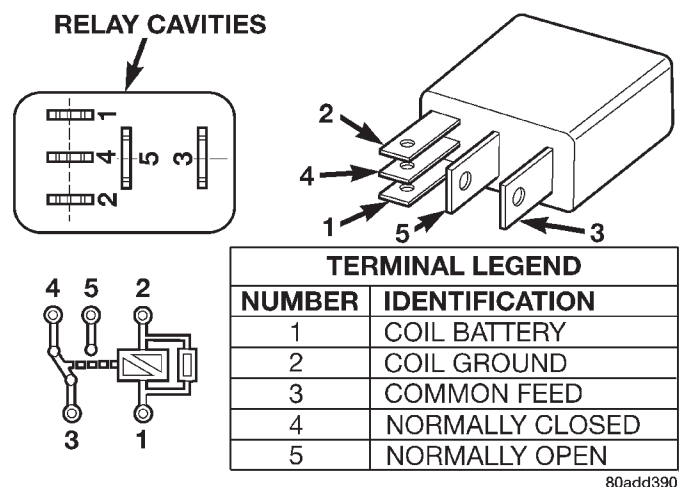

Fig. 12 Type-3 Relay
(16) If equipped with **type-3 relay** (Fig. 12), attach test leads from LCS adapter into PDC relay cavities number 3 and 5. For location of these cavities, refer to numbers stamped to bottom of relay (Fig. 12).
(17) When LCS adapter test leads are attached into relay cavities, fuel pump **will be activated**. Determine fuel pump amperage on DRB screen. Amperage should be below 10.0 amps. If amperage is below 10.0 amps, and specifications for the Fuel Pump Pressure,